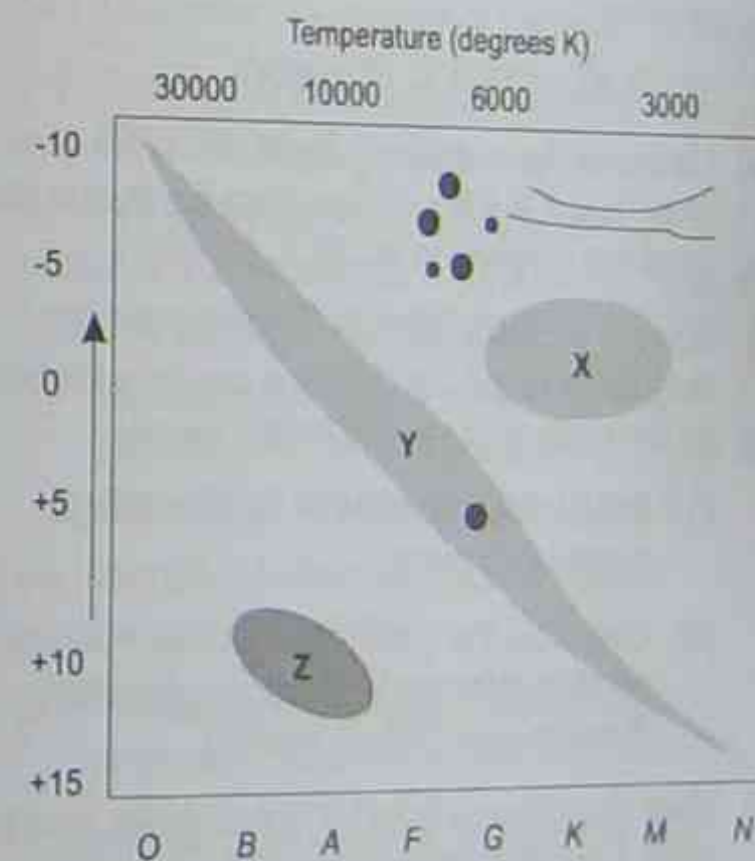

Figure 5.39
- (h) Figure 5.39 is a Hertzsprung-Russell diagram.